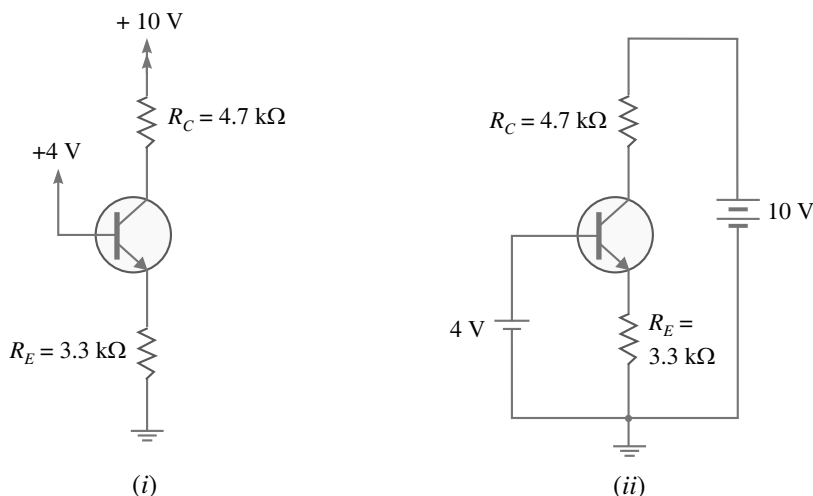

Fig. 6.32
**Example 6.25.** For the transistor circuit shown in Fig. 6.32 (i), determine all node voltages and branch currents. Assume that  $V_{BE} = 0.7 \text{ V}$  and  $\beta = 100$ . Verify that the transistor is operating under normal conditions (i.e. in the active region).
**Solution.** The circuit shown in Fig. 6.32 (i) can be redrawn as shown in Fig. 6.32 (ii).